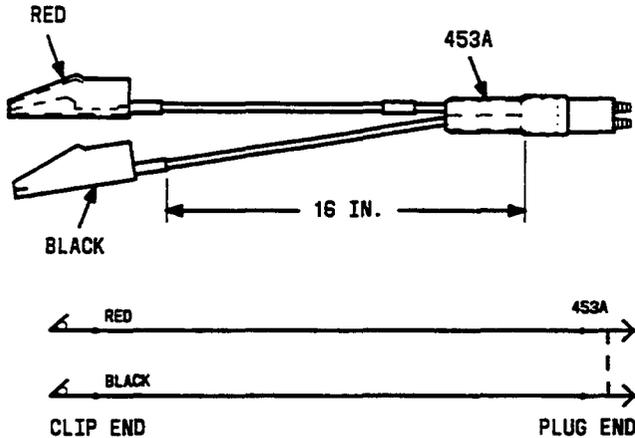

Figure 23—P2EF Test Cord
5.08 The P2EF test cord (Figure 23) is used to short the tip and ring or to ground the tip and/or ring of an individual cable pair by inserting the plug end into a pair of recessed test terminals on the 308-type connector.